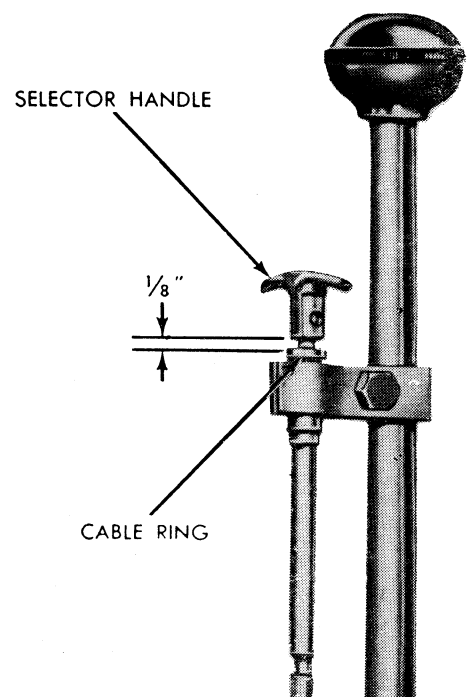

Fig. 5 Selector handle adjustment
- ring, Fig. 5. *This clearance should not exceed 1/8".*